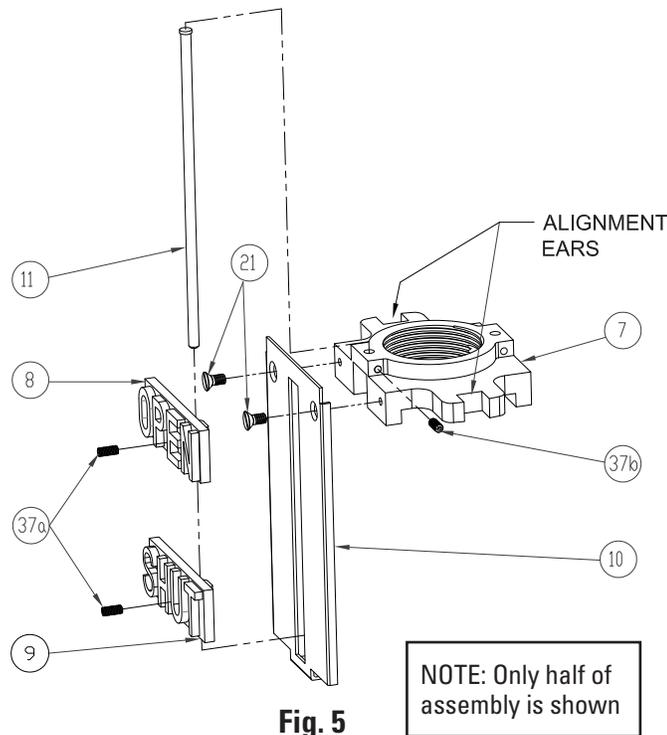

Fig. 5
- 4.4 Target Plates (8 & 9) must be positioned with the OPEN Plate (8) above the SHUT Plate (9) for "left-hand" (counter-clockwise) opening valves. See Fig. 5.